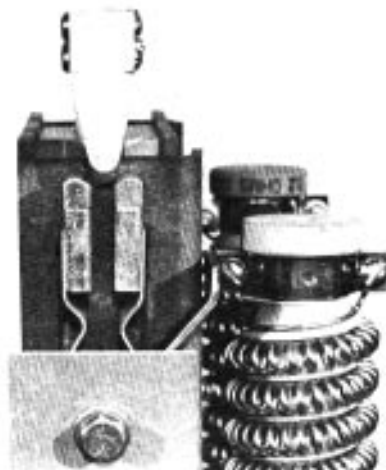
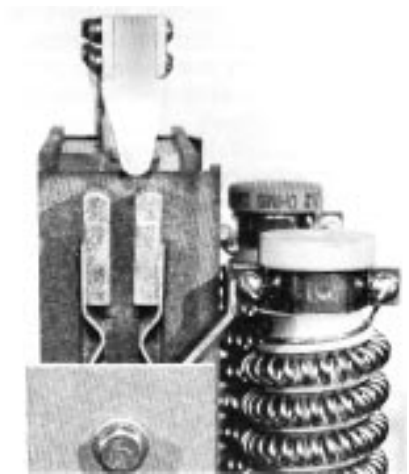

Figure 22.
Figure 23.
- F. As the moving arcing contacts approach engagement with the stationary contacts, observe their alignment. See Figures 22 and 23. The moving contacts in Figure 22 will engage the stationary contacts evenly, making simultaneous contact on both sides and with equal contact force. The moving contacts in Figure 23 might make entry into the stationary contacts but with unequal contact force.